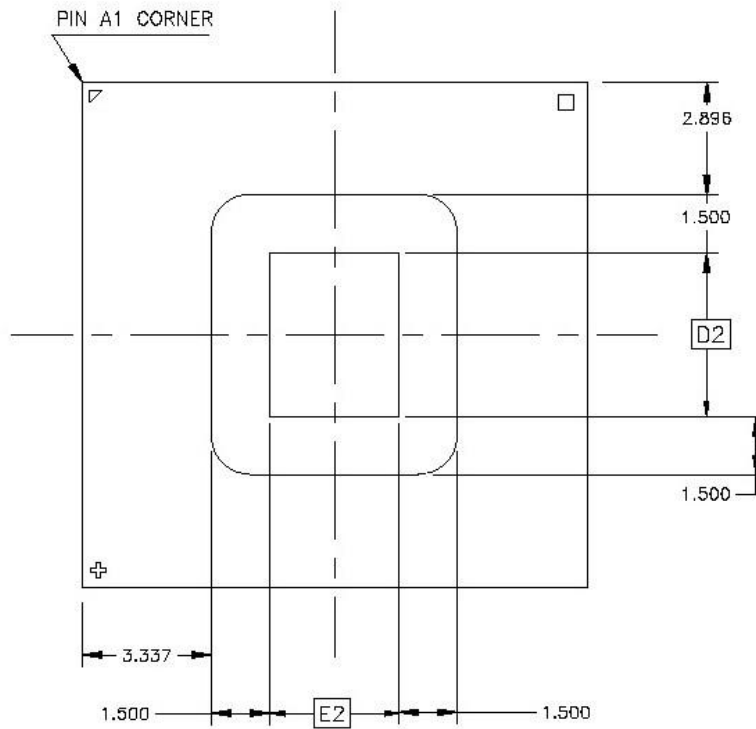
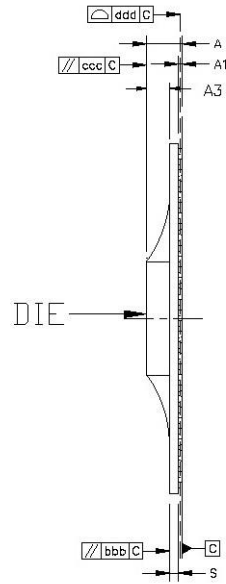
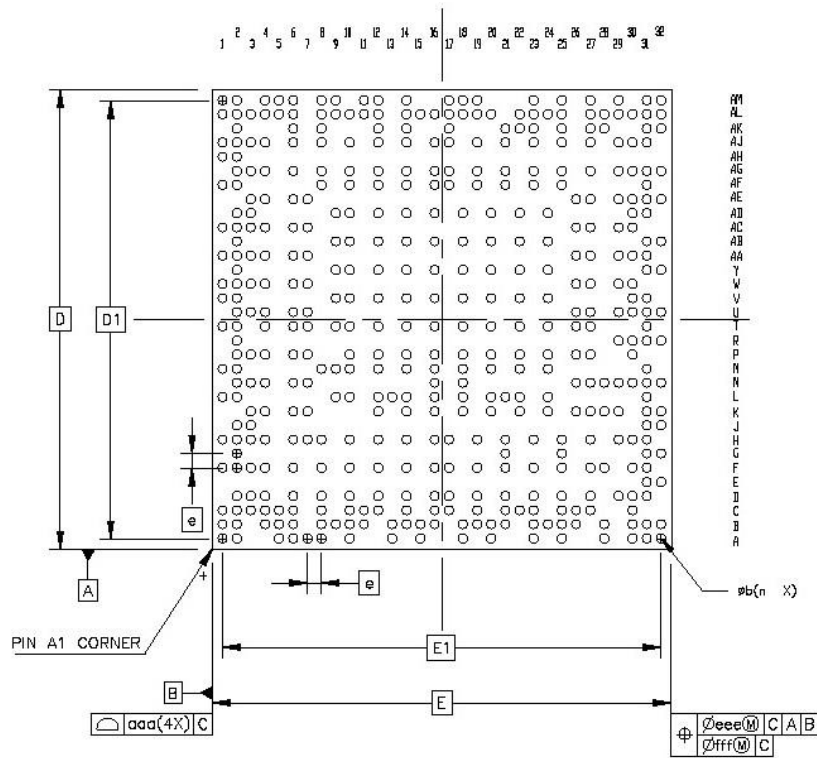

Figure 36. SL1620 Top View
Figure 37. SL1620 Side View
Figure 38. SL1620 Bottom View
**Note:** The drawings in Figure 36, Figure 37, and Figure 38 are not to scale.